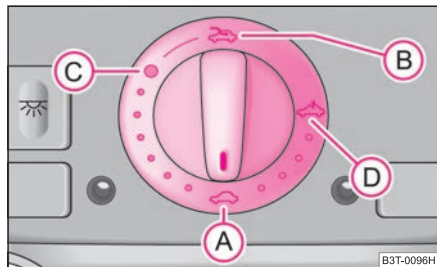

Fig. 38 Control dial for the power sliding/tilting roof
The sliding/tilting roof is operated by means of the control dial ⇒ fig. 38 and only functions when the ignition is switched on. The control dial has a number of fixed positions.
- Turn the switch to position **C** ⇒ fig. 38.
- Turn the switch to position **(A)** ⇒ page 50, fig. 38.
The sliding/tilting roof is equipped with an overload protection system. If an obstacle (e.g. ice) prevents closing, the sliding/tilting roof stops and opens completely. You can close the sliding/tilting roof completely without overload protection by pressing the switch to the **(A)** position ⇒ page 50, fig. 38 at the front for as long as it takes for the sliding/tilting roof to shut completely ⇒ .
It is necessary after each emergency operation (using crank handle) to move the sliding/tilting roof into the basic position. Here you have to press the control dial forward to switch position **A** ⇒ page 50, fig. 38 for about 10 seconds. ■